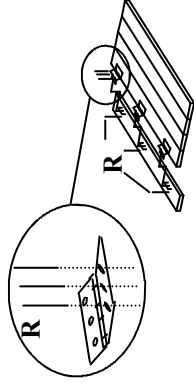

Fig 3
6. Fix the hinges to the Seat lid back beam as shown in Fig 3 using screws **Q**.